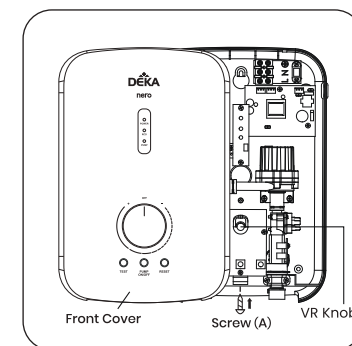

Fig. 8
3. Secure the front cover with the screw (A) as shown in the figure below **(Fig. 8)**.